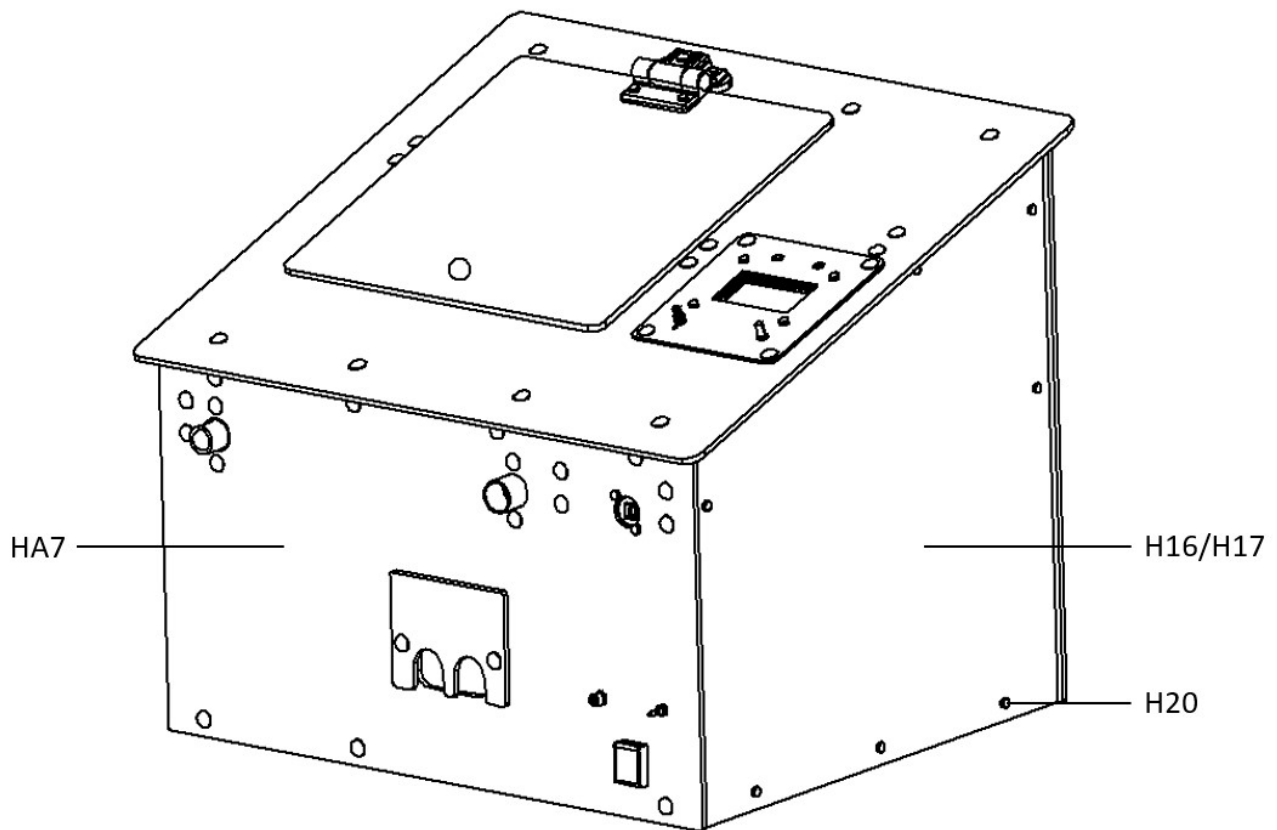

Figure 19: Mount Left and Right Side Panel to Main Assembly
1. Mount the H16 Side Left and H17 Side Right plates to the Main Assembly with 6x H20 Bolts on either side as pictured in figure 19.